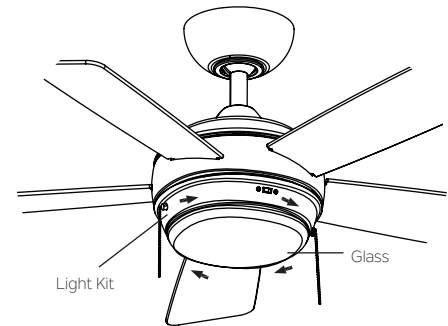

Fig. 21
Step 1. Secure the glass to light kit assembly and twist clockwise. Do not over-tighten. (Fig.21)